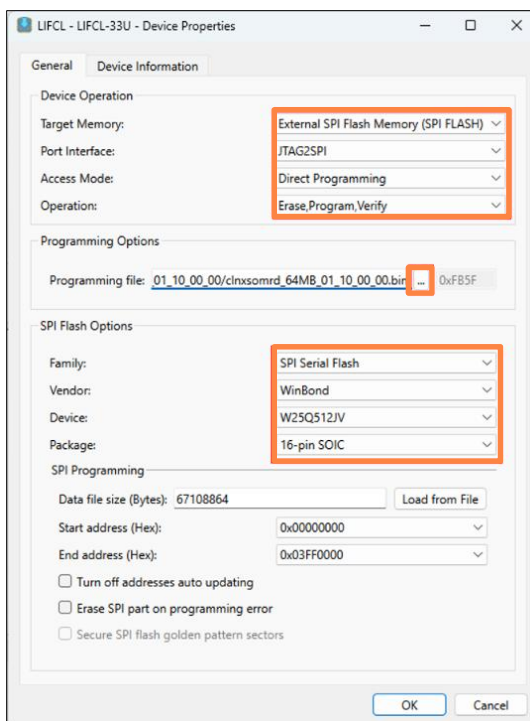

Figure 5.32 Selecting Bitstream File to Program
- Select the appropriate SPI flash configuration to flash directly to external SPI flash. Refer to Figure 5.32 for the expected settings. Click the ... button beside the file name bar and select the bitstream file from the **CLNX_SPI_IMAGE** folder listed in Table 2.1.